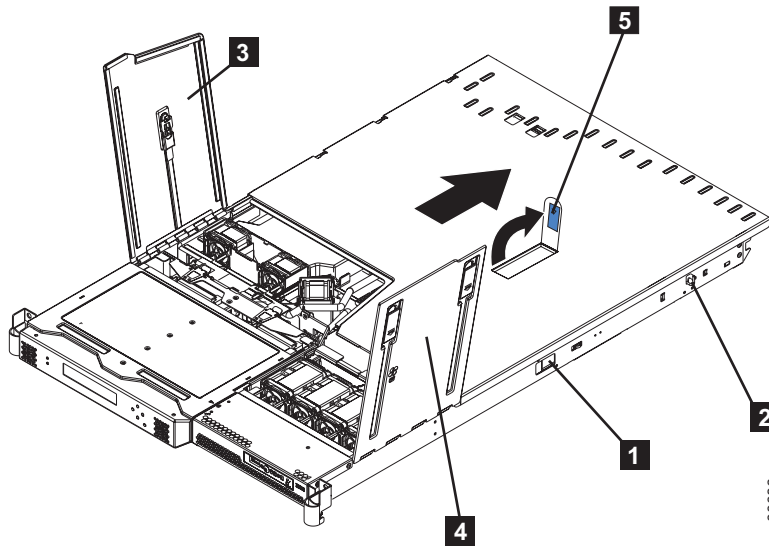

Figure 45. SAN Volume Controller 2145-8F2 with fan doors open
- b. Slide both side release latches (left and right) toward the front of the SAN Volume Controller 2145-8F2. Make sure that both rail-lock pins **2** are in a vertical position, pull the SAN Volume Controller 2145-8F2 out, and remove it from the rack. See Figure 45 on page 214.